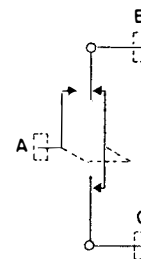

Figure 1-5. Function Diagram of Navy Type CIA-491388 Jack Switch
contains eleven Navy type CIA-491388 Jack Switches five of which are partially used in this equipment. A function diagram of the Jack Switch is shown in fig. 1-5. As can be seen from this diagram connector B is normally connected to connector C both at the back of the panel. When a patch cord is inserted into Jack A at the front of the panel, the connection between B and C is broken and A is connected to B which is the upper connection at the back of the panel. As applied in the equipment only A and B are used; thus, when there is no patch cord in place, the antenna or receiver connected to B is in reality open circuited. Two of these Patch Panels are mounted in the relay rack cabinets with the antenna selectors. Five of the upper terminals (B) of the upper panel are connected to the enter taps of the five antenna switches. Five of the upper terminals (B) of the lower panel are connected to the receivers. Thus by patching between corresponding jacks (A), by means of a type 49122-B RF Patch Cord an antenna switch is connected to a receiver.